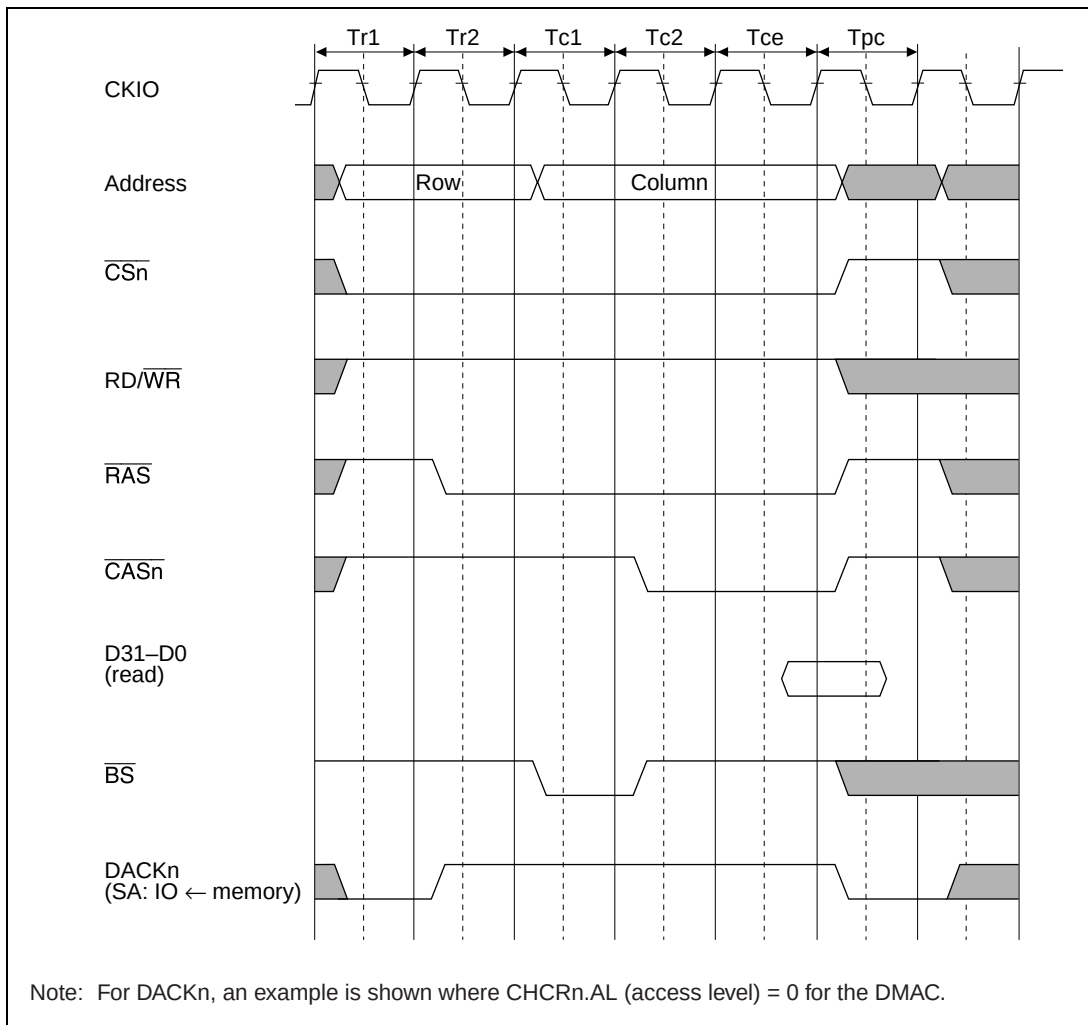
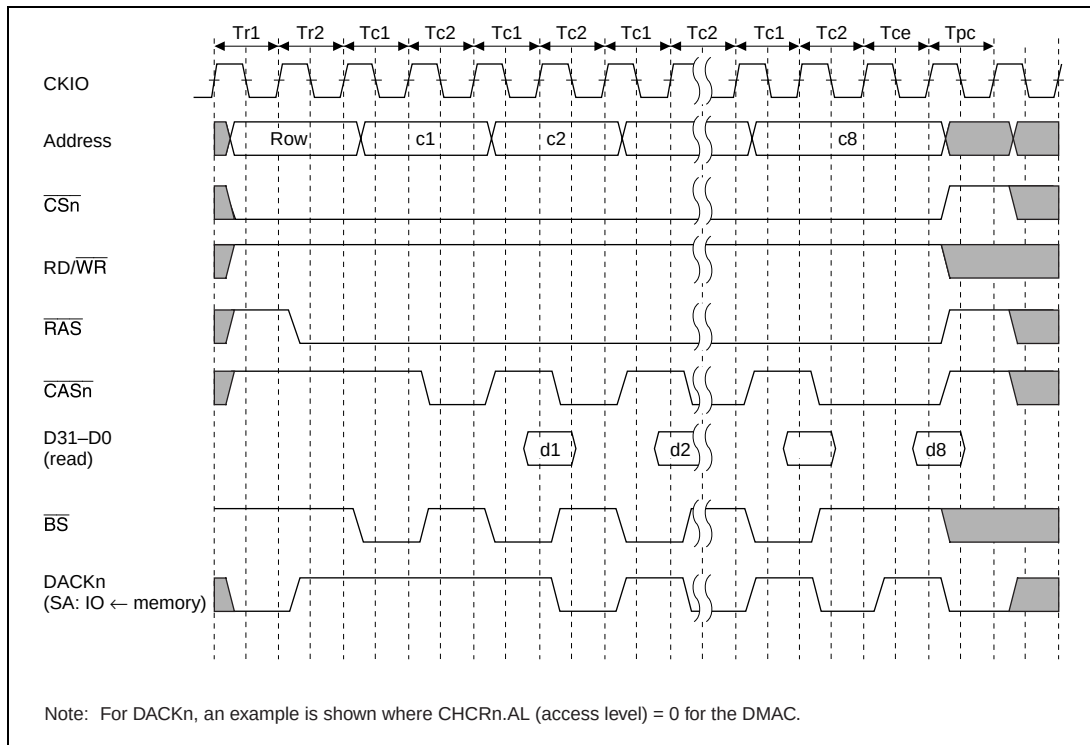

**Figure 13.17 DRAM Bus Cycle (EDO Mode, RCD = 0, AnW = 0, TPC = 1)**
**Figure 13.18 Burst Access Timing in DRAM EDO Mode**
**EDO Mode:** With DRAM, in addition to the mode in which data is output to the data bus only while the  $\overline{\text{CAS}}$  signal is asserted in a data read cycle, an EDO (extended data out) mode is also provided in which, once the  $\overline{\text{CAS}}$  signal is asserted while the  $\overline{\text{RAS}}$  signal is asserted, even if the  $\overline{\text{CAS}}$  signal is negated, data is output to the data bus until the  $\overline{\text{CAS}}$  signal is next asserted. In the SH7751 Series, the EDO mode bit (EDOMODE) in MCR enables either normal access/burst access using fast page mode, or EDO mode normal access/burst access, to be selected for DRAM. When EDO mode is set, BE must be set to 1 in MCR. EDO mode normal access is shown in figure 13.17, and burst access in figure 13.18.